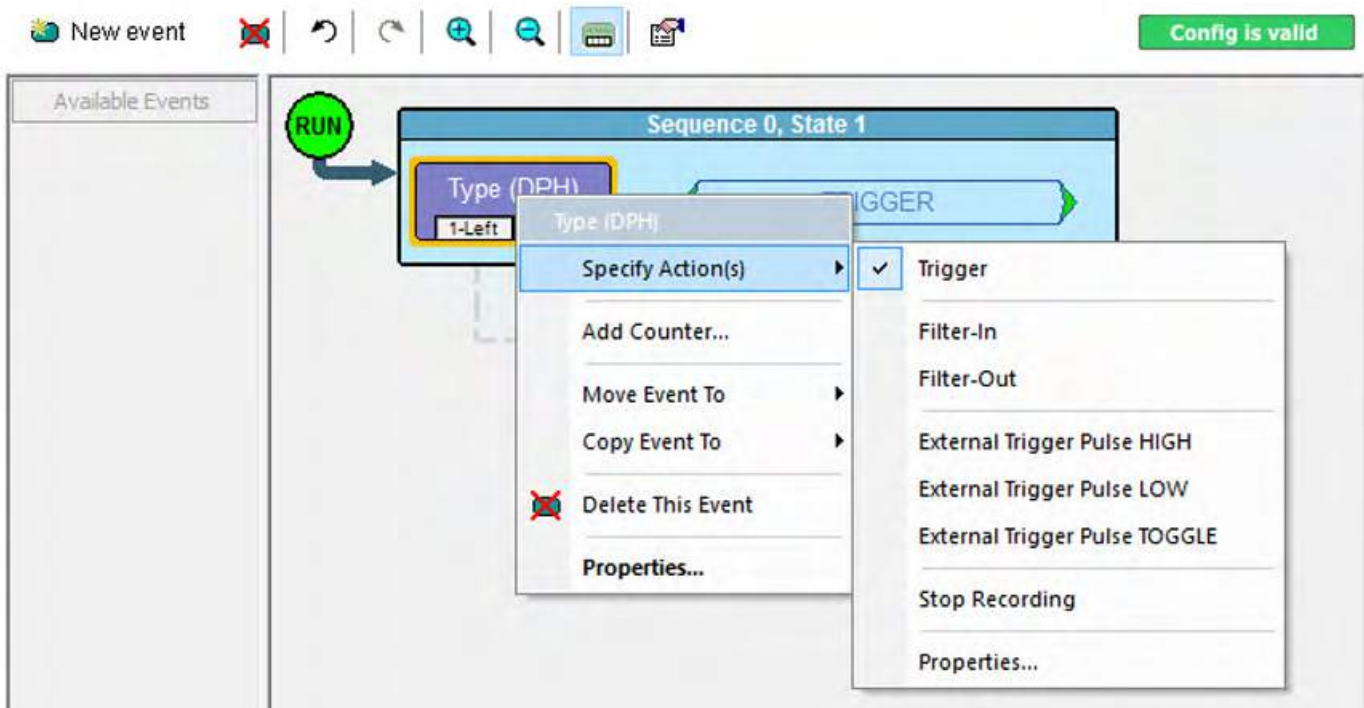

Figure 5.37: Assigning Action to Event Button.
1. Right-click the **Event** button to display a pop-up menu (see Figure 5.37 on page 249.)